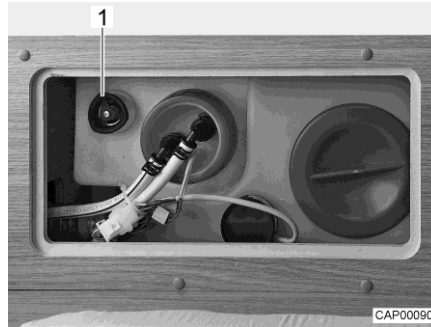

Fig. 96 Water tank with rotary handle
- Turn the rotary handle (Fig. 96,1) on the water tank in an anticlockwise direction as far as possible beyond the resistance to fully open the drainage opening.